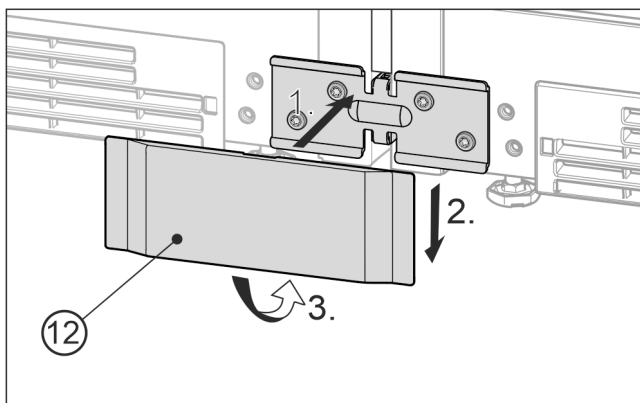

Fig. 22 Example illustration
- Place the bottom cover Fig. 22 (12) onto the bracket from the front Fig. 22 (1), slide it down Fig. 22 (2) and snap it in at the bottom Fig. 22 (3).